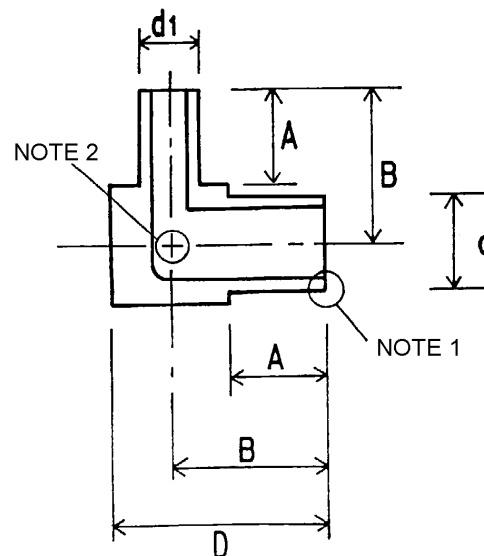

Figure 3A
5.1 *Reducing Elbow Weld Fittings* (see Figures 3A and 3B)